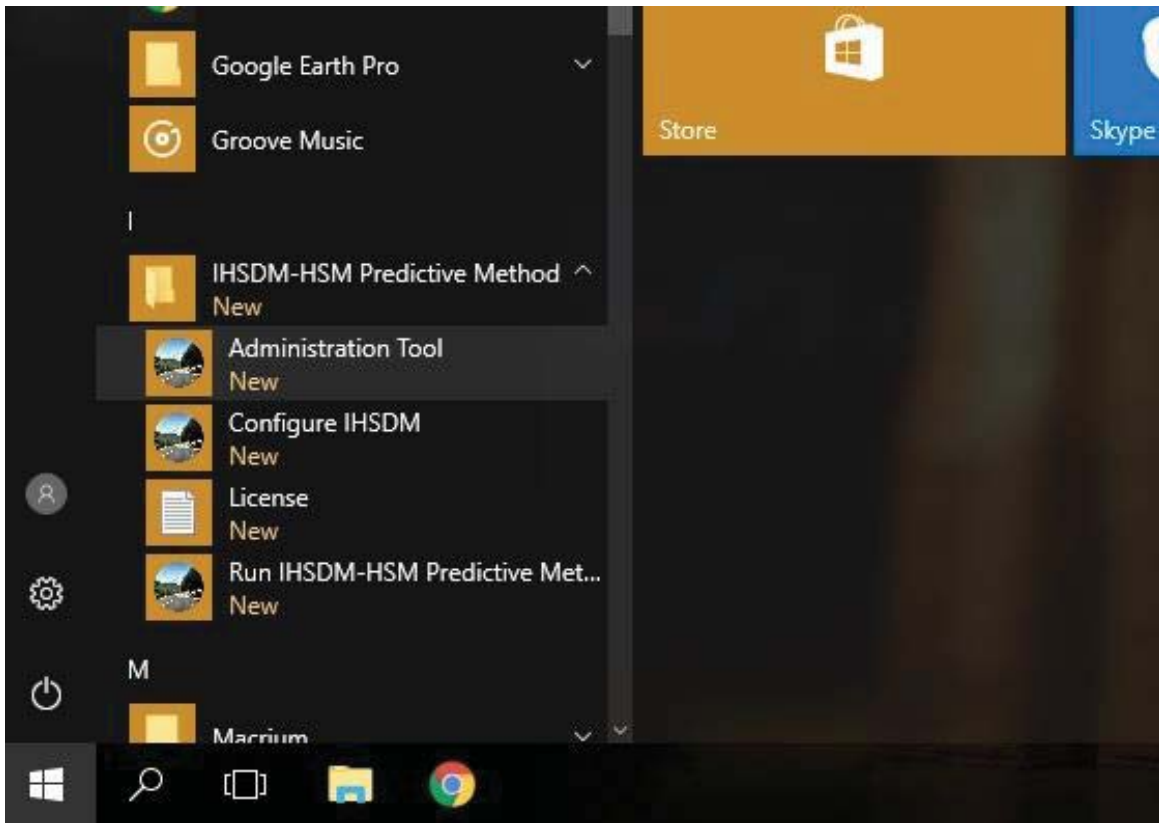

Figure C.5 Opening the IHSDM Administration Tool
Step 4: Open the IHSDM Administration Tool from the Start menu (Figure C.5).